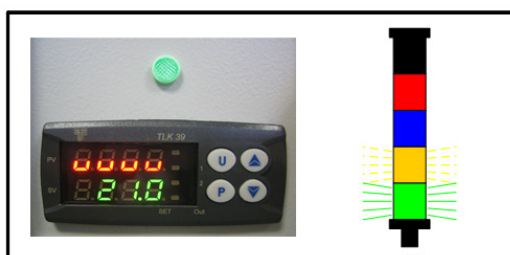

Figure 9
4.1.2. After approximately 5 seconds, the controller display will change. If no output, temperature signal is available from the printer, the controller will display 'UUUU' and the orange beacon segment will flash quickly. The TCU will not start (Figure 9).